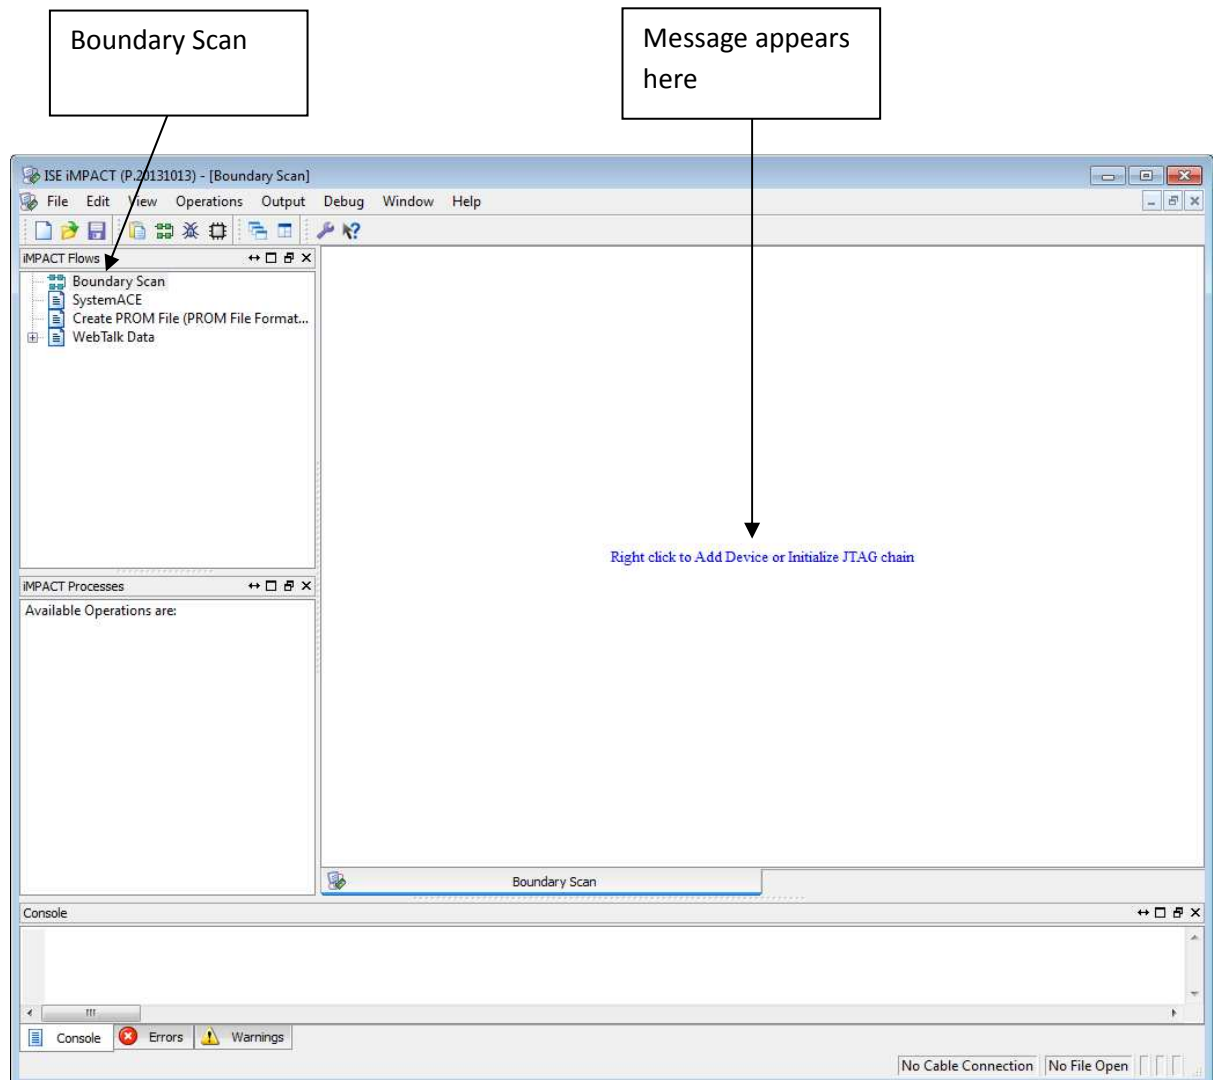

Figure 3.30: iMPACT window, after double-clicking on Boundary Scan.
5. Double-click on Boundary Scan as shown in Figure 3.30. The message “Right click to Add Device or Initialize JTAG Chain” should appear to the right.